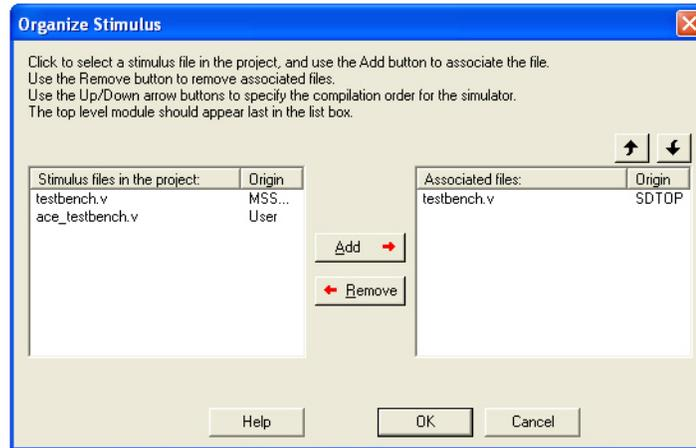

Figure 2-3 • Organize Stimulus Dialog Box
2. We want to use ace_testbench instead of testbench.v. So select testbench.v from the right panel and click **Remove**. Then select ace_testbench.v from the left panel and click **Add** (Figure 2-3).